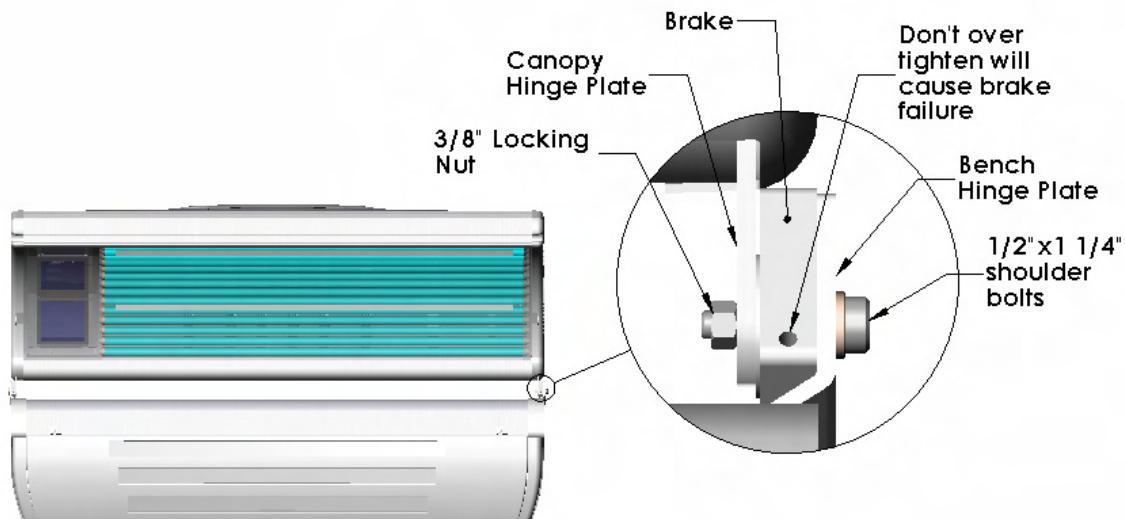

Fig. 2
- STEP 2. Turn the unit right side up and place the canopy on top of the bench, aligning the bench and the canopy hinge plates. Bolt the hinge plates together using the 1/2"x1/4" shoulder bolts, 3/8" nuts, 9/16" socket, and 1/4" Allen wrench (both provided) (Fig. 2)
- STEP 4. Using the 5/32" Allen wrench (provided), tighten the brake adjustment screw until it is snug. (Fig. 2)